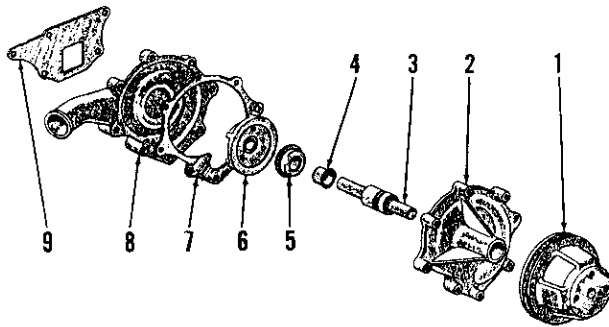
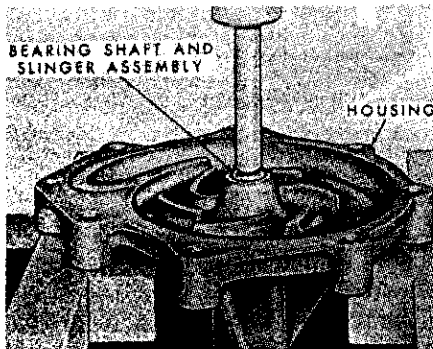

Fig. 155—Exploded view of water pump assembly used on all engines. Seal (5) seats against hub of impeller (6).
Fig. 156—View showing shaft and bearing assembly being pressed from impeller and housing.
170. Water pump can be removed after removing radiator as outlined in paragraph 169. Refer to exploded view of water pump in Fig. 155 and disassemble pump as follows:
Remove fan from pulley and using standard two-bolt puller, remove pulley from shaft. Remove rear cover (8) and press shaft and bearing assembly (3) out towards front of housing as shown in Fig. 156. Drive the seal (5 —Fig. 155) out towards rear of housing.